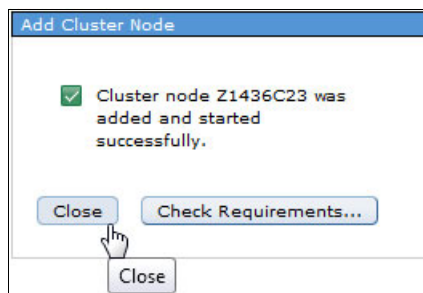

Figure 4-44 Three-node cluster: Third node added successfully
4. As shown in Figure 4-44, the cluster node is added and started. Click **Close**.